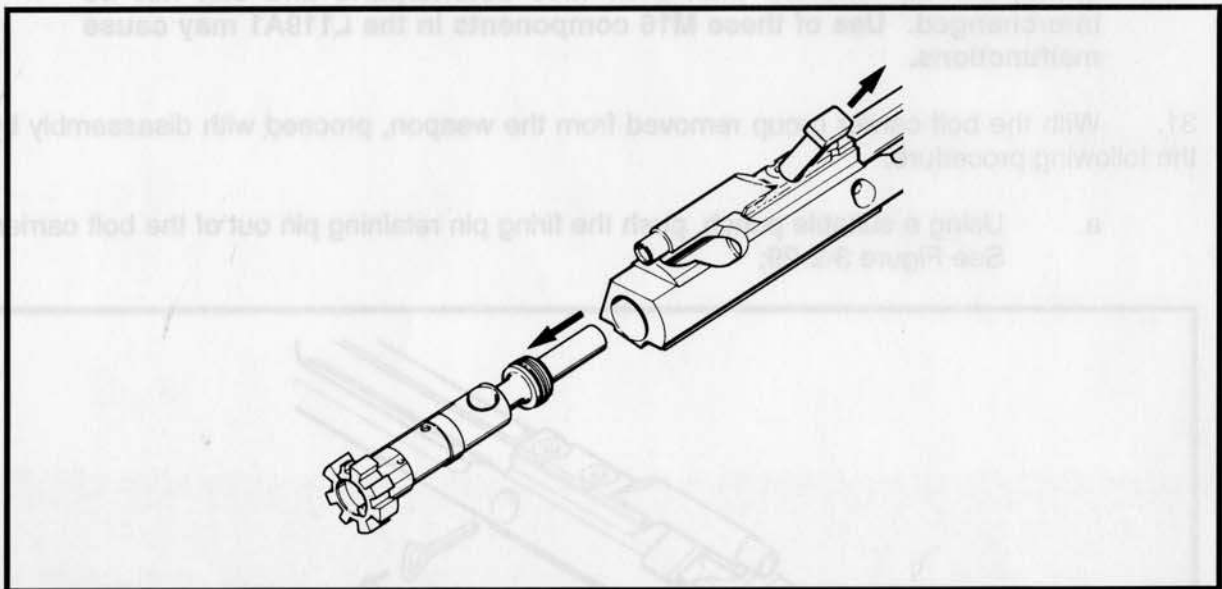

Figure 3-2-31 Removing the Bolt
- e. Withdraw the cam pin from the bolt carrier group and pull the bolt out of the bolt carrier. See Figure 3-2-31.